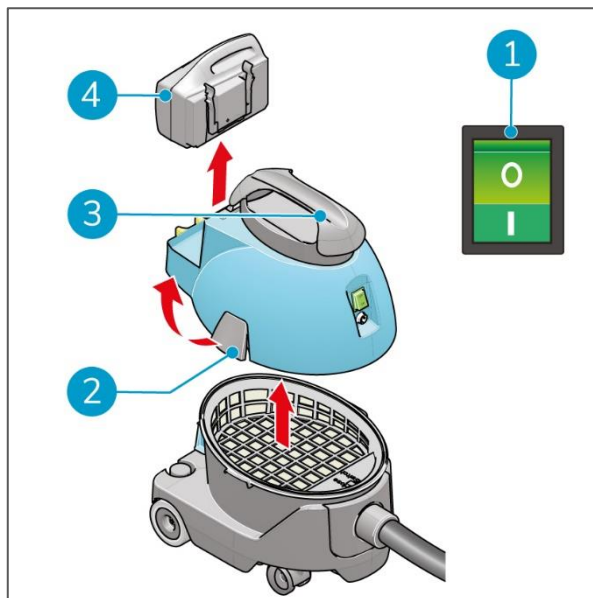

Figure 9
1. Turn off the i-vac 5B with the ON/OFF switch (Figure 9, pos 1).
2. Remove the battery (Figure 9, pos 4).
3. Release the latches (Figure 9, pos 2).
4. Lift the head by the handle (Figure 9, pos 3).